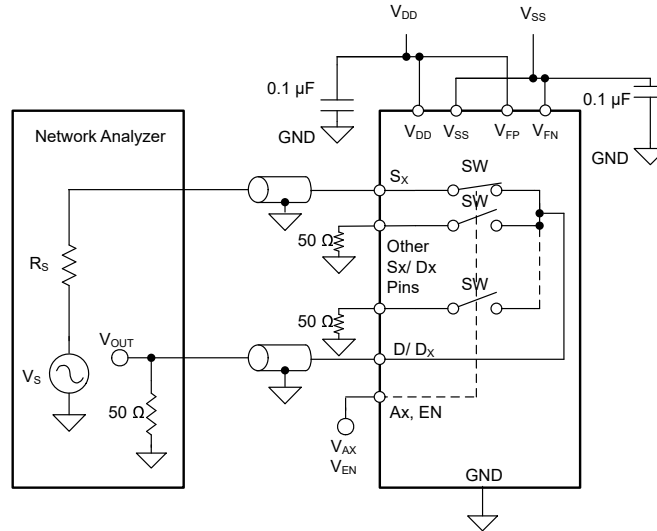

図 6-16. Bandwidth Measurement Setup
Bandwidth (BW) is defined as the range of frequencies that are attenuated by < 3 dB when the input is applied to the source pin (Sx) of an on-channel, and the output is measured at the drain pin (D) of the TMUX582F-SEP. 図 6-16 and 式 3 shows the setup used to measure bandwidth of the switch.